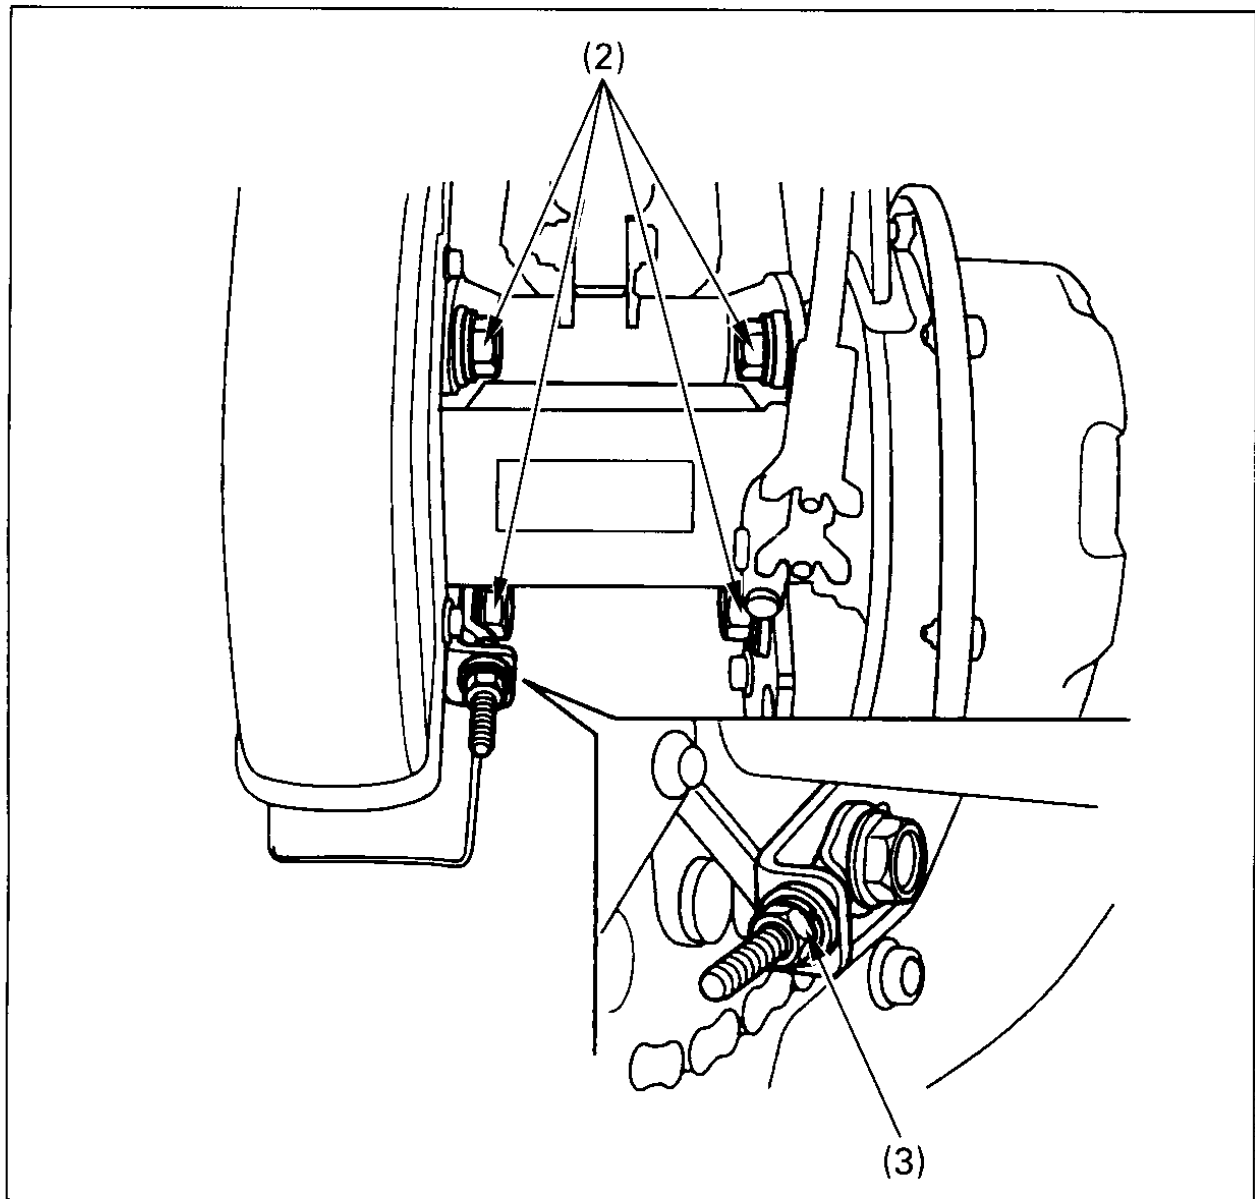

Fig. 4-12 (2) Fixing bolts
To adjust slack, loosen the rear axle holder fixing bolts (2), (Fig. 4-12). Turn the adjusting nuts (3), (Fig. 4-12) to decrease or increase chain slack. Retighten the rear axle holder fixing bolts and adjusting nuts. Rear axle holder fixing bolts torque: